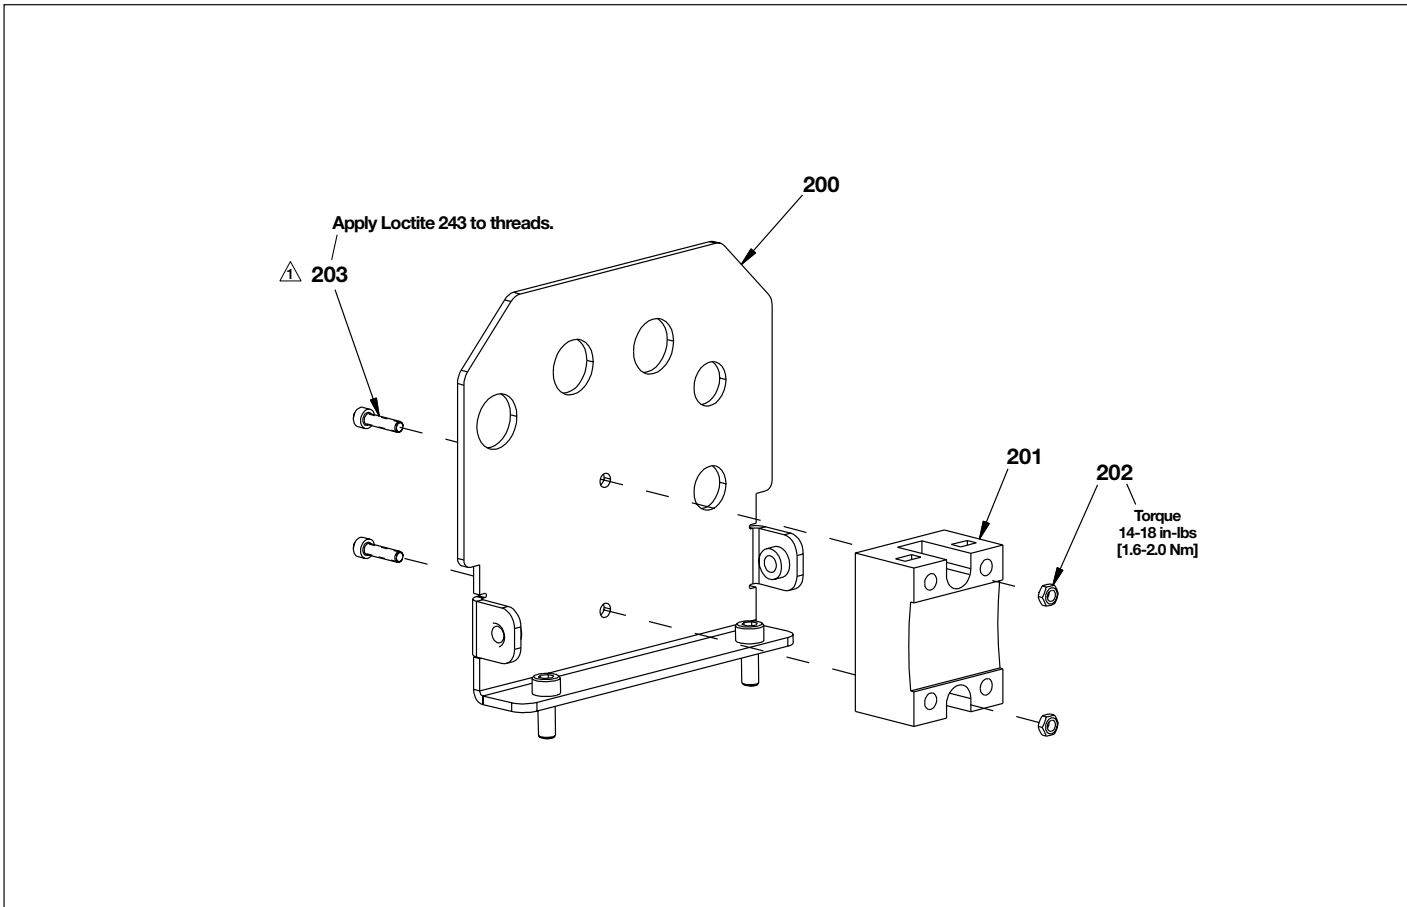

Figure 5C, Front Bracket Assembly (all electric pumps with Date Codes “C” and “D”)
IMPORTANT: Heat sink (item 143) is no longer available as a replacement part. If heat sink is damaged, order new aluminum front bracket (Figure 5C, item 200), capscrews (Figure 5C, item 203) and hex nuts (Figure 5C, item 202). Heat sink is not needed with aluminum front bracket.
Repair Parts List for Figure 5C